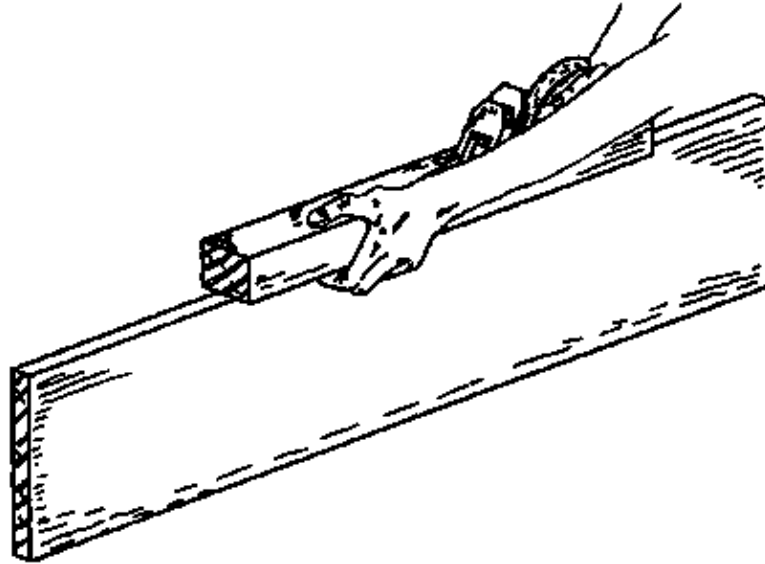

Fig. 3
– Guide the plane when you plane on edges, by curling your fingers under the plane so that they contact the board (Fig. 3).